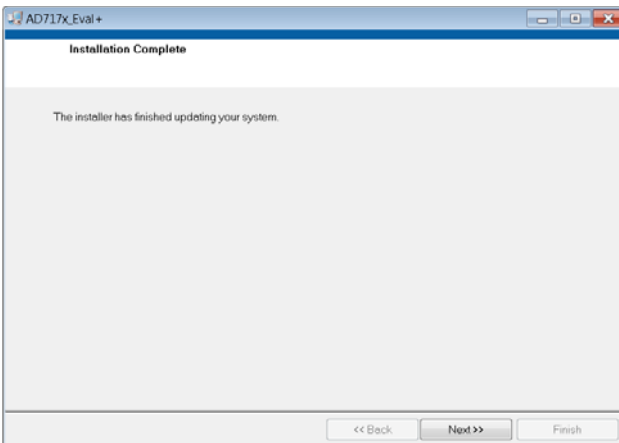

Figure 7. Installation Complete Window
7. The message shown in Figure 7 appears when the installation is complete.